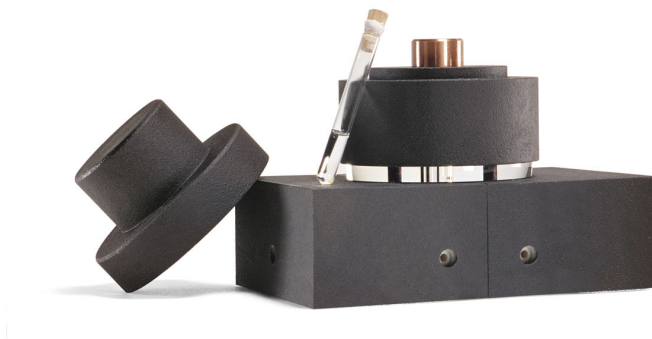

Figure 1-2: The Static Sample Chamber
- A static sample chamber (Figure 1-2), in which the sample is placed in a 6 mm disposable test tube which requires 150  $\mu\text{L}$  of sample. Sample chambers for 3 mm and 5 mm tubes as well as NMR tubes (10  $\mu\text{L}$ ) are available.